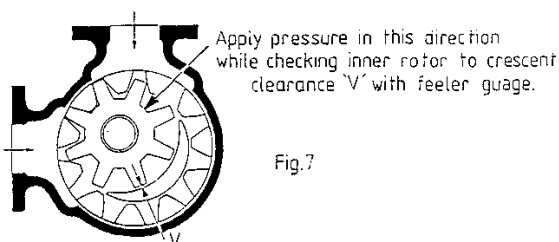

Fig.7
- c) To check clearance between Inner Rotor and Cover crescent, Inner Rotor should be held towards inlet plane. Refer Fig. 7